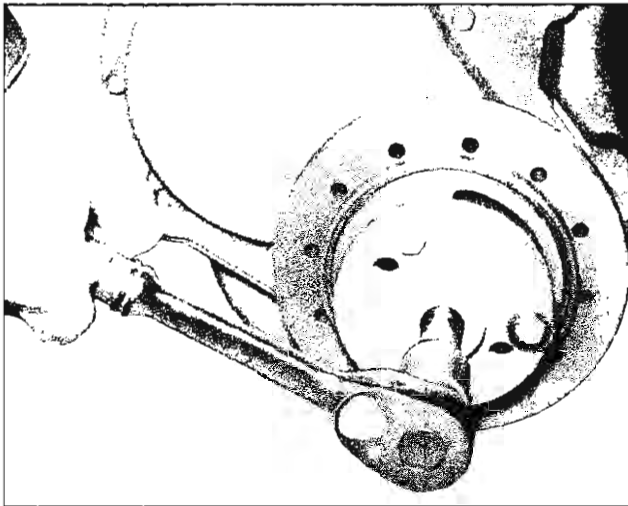

Fig. 29—Removing Harmonic Balancer
3. Install Tool J-6978 to balancer and turn puller screw to remove balancer (fig. 29). Then remove tool from balancer.